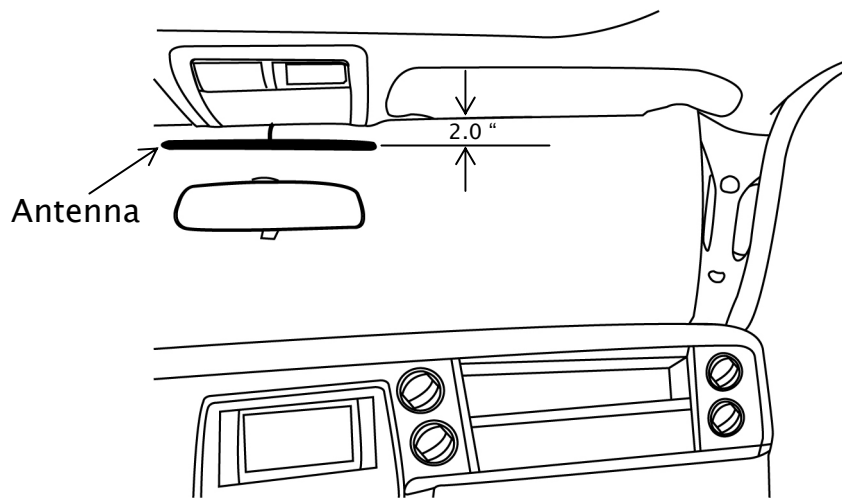

Figure 8 - Remote antenna placement
The wired remote control should be installed in the front seating area of the vehicle, where it can be easily accessed, but not positioned where it could distract the driver or obstruct the driver's view. It should also not be located where the wired remote control or its harness could interfere with the operation of the airbags in the vehicle. It is recommended that the wired remote control is installed in the vehicle's center console or glove box and the attached antenna installed on the windshield, two inches below the top edge of the glass. The antenna should not obstruct the driver's view (see figure 8)
2. Route the antenna to the windshield, following the A pillar and tucking the wire into the headliner. Locate the antenna 2 inches below the top of the windshield (see figure 8), remove the adhesive backing and press the antenna to the windshield.